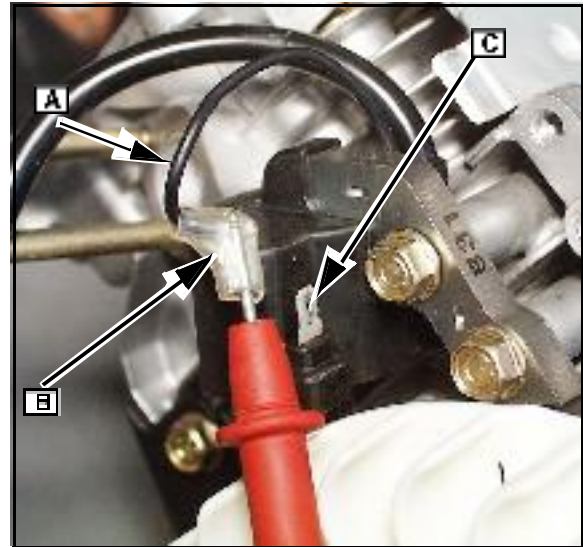

Fig. 38
**NOTE:** Ensure that control lever tab (**F**) Fig. 38) does not contact switch tang at (**E**) Fig. 38).